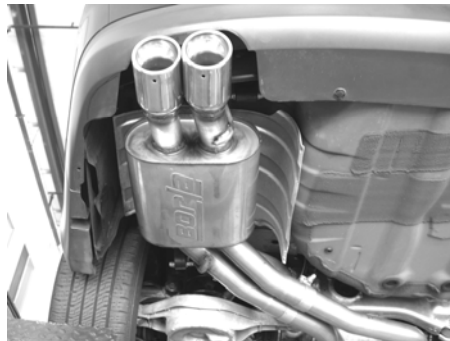

Figure 6
4. Place a clamp over the expanded ends of the rear muffler assembly and set it into position as shown in figure 6 making sure to install the hangers into the rubber brackets. DO NOT tighten the clamps.